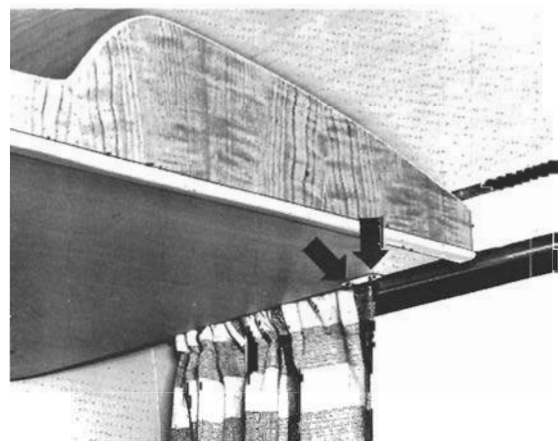

Fig. 7-16. Screws (arrows) that hold left side of shelf
1. Remove the two screws indicated in Fig. 7-16.